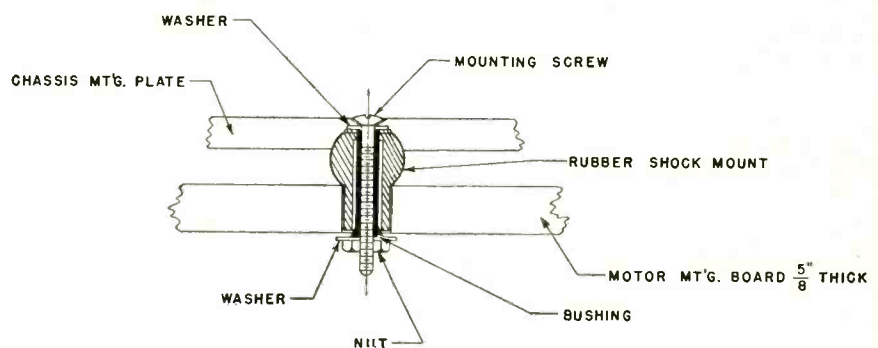

Fig. 1. Mounting details of Twin Trax chassis
4. **Shock-proof Mounts** - Freedom from vibration is essential to *any* recording machine. Protection against building rumble or local vibration is gained through mounting plate shock-mounts such as the *Twin Trax* example illustrated in *Fig. 1*. Rubber grommet motor mounts (*P 123*) and rubber drive roller (*A 181*) of the *Pentron* recorder are shown in *Fig. 2*. This rubber drive roller is carefully
- (63) Drive Motor